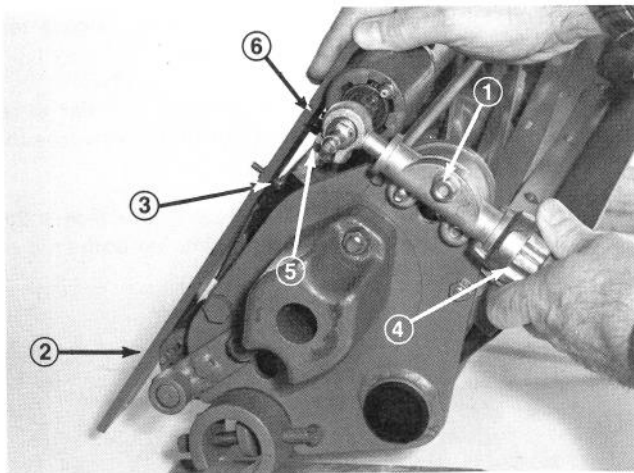

Figure 6
unit should be turned over and the locknuts on each end of the cutting unit securing the height of cut adjusting knob loosened (Fig. 6).
3. Place the bar across the front and rear rollers and adjust the height of cut knob until the underside of the screw head engages the bedknife cutting edge (Fig. 6).
1. Assure rear roller is in the desired height-of-cut position. Loosen the bolts anchoring the front roller shaft. Rotate the shaft (Fig. 6).
- A. Teeth touching the adjusting gauge bar gives you an aggressive setting (Fig. 6).
3. Tighten the roller shaft bolts (Fig. 6).